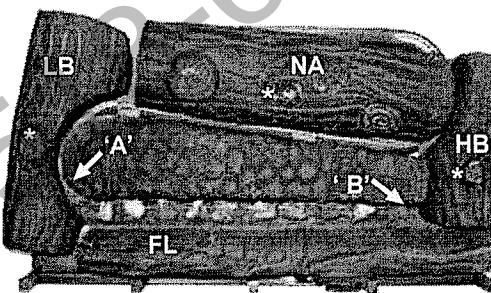

FIGURE 11E
2. Place the 'NA', 'LB', 'HB', and 'FL' logs into position on the burner cover aligning the holes in the bottom of the logs to the corresponding pins in the burner cover. Fig. 11E
4. Align the holes in the bottom of the 'BL' and 'AP' logs to the alignment knobs* protruding from the 'LB' and 'HB' logs. Refer to figures 11E & 11F.
5. Align the hole in the bottom of the 'TL' log onto the alignment knob* protruding from the 'NA' log. Set into position between the 'BL' log and 'AP' log as shown in figures 11E & 11F.